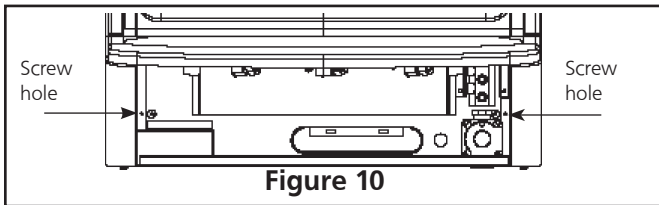

Figure 10
- Locate two bottom mounting holes. These holes are near bottom on back panel of heater (see figure 10).